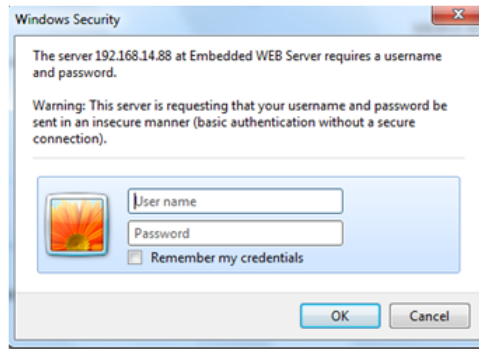

Figure C-1 Authentication Window
2. Power on the 3411. The Found New Hardware Wizard window will pop up as shown below. On the Driver Installation window choose “Install from a list or specific location (Advanced)” option as shown in figure C-1 Driver Installation window.